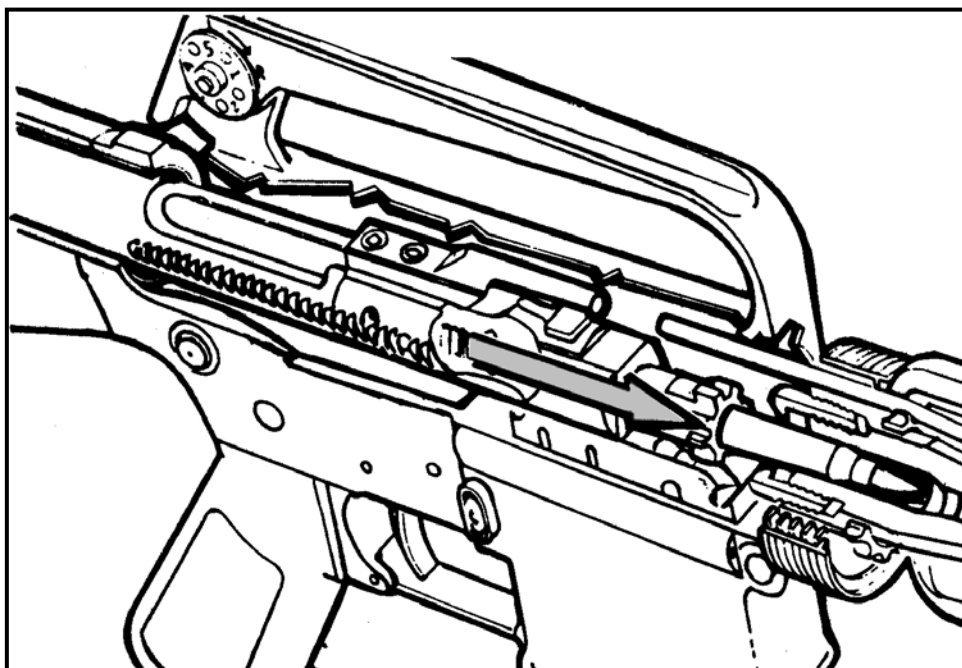

Figure 4-4. Chambering.
b. **Chambering** (Figure 4-4). As the bolt carrier group continues to move forward, the face of the bolt thrusts the new round into the chamber. At the same time, the extractor claw grips the rim of the cartridge, and the ejector is compressed.